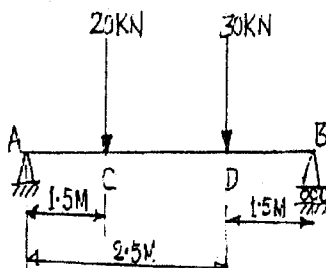

Fig. 7(a)
- 7 a. A beam of length 4m is simply supported at the ends and carries two concentrated loads of 20kN and 30kN at distance 1.5m and 2.5m from left end. Refer fig.7(a). Find the deflection at mid span. Take $E = 200 \text{ GPa}$ and Moment of Inertial $I = 3 \times 10^8 \text{ mm}^4$ of the cross section. (10 Marks)